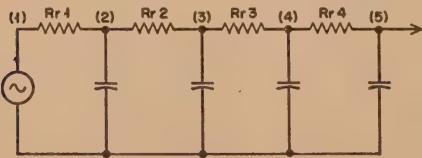

Fig. 9. Distributed resistance and capacity of short antenna.
Actually, radiation resistance and capacitance are not lumped, but are spread along the entire antenna, as shown by Fig. 9. With the loading coil in position (1), it is resonated by the entire capacitance of the antenna.
Now let's examine antenna loading from another angle. If the antenna capacitance (other than at the base) is increased, the amount of loading coil required for resonance is reduced, and coil loss with it. Figure 9 also shows that the best place for the bulk of capacitance is at the end, since to reach this capacitance current must flow through the entire antenna, utilizing the entire radiation resistance. Unfortunately, the end is the poorest location mechanically. Fixed stations get by with "wagon wheels" atop the antenna, but not the family bus.